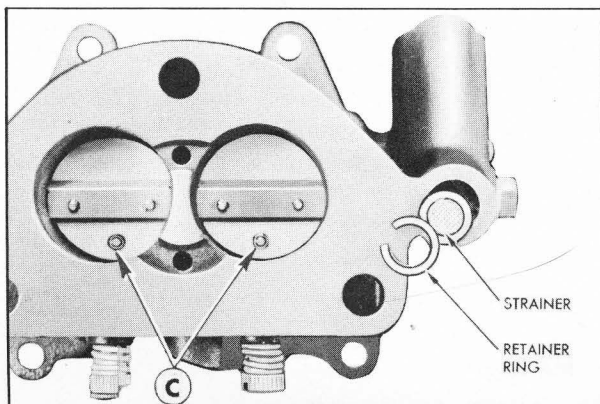

Figure 3-53—Vacuum Switch Strainer and Throttle Valves
5. Install throttle valves on shaft in accordance with scribe marks made at removal, *using new screws*. The small "c" in circle on valves must be toward idle ports when viewing body flange from manifold side. See figure 3-53. Back off throttle lever adjustment screw and close valves. Center valves in barrels of body flange and hold firmly with fingers while tightening screws.
12. Install pump strainer, using care to avoid distorting it or leaving openings around the edge. Install pump check needle, blunt end first. Install discharge check plug, then discharge passage plug with new gasket. See figure 3-53.